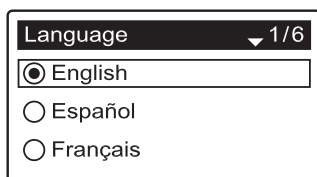

FIG. 8
1. **LANGUAGE** If the desired language already has a black dot next to it (See Figure 8), go to Step 2. Otherwise, press the softener’s DOWN (▼) or UP (▲) buttons to scroll to the desired language, then press the SELECT (○) button to choose it.